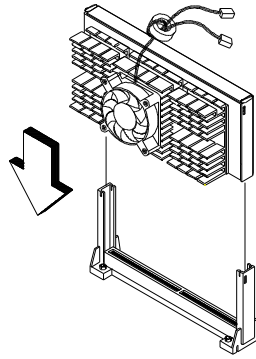

Figure 2-11 Installing a Pentium II Processor Module
2. With the processor module golden fingers pointing downward, align the processor to the posts of the retention mechanism then lower it down. See Figure 2-11.